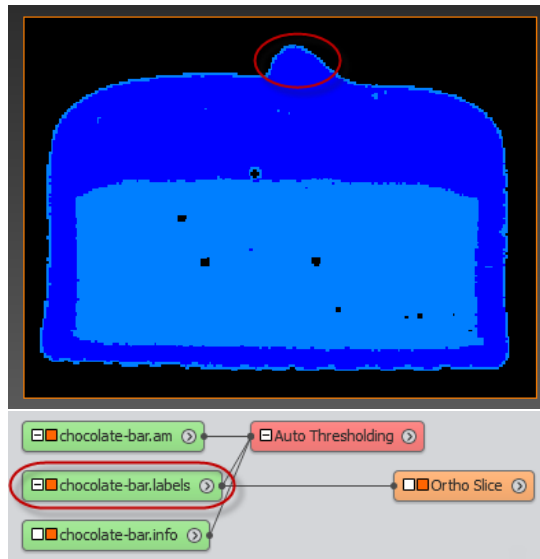
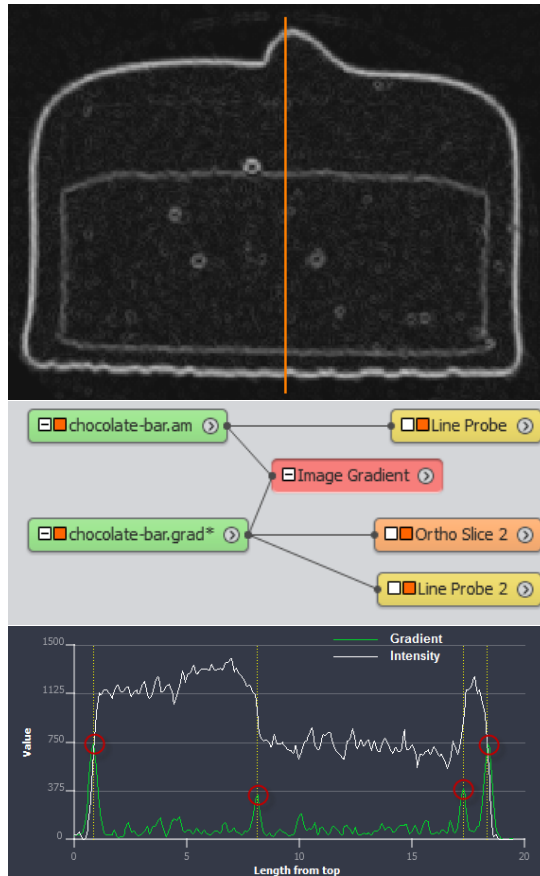
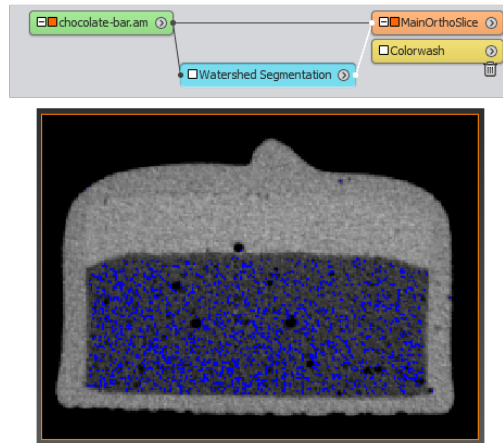

Figure 4.68: Automatically segmenting the image with *Auto Thresholding*.
Figure 4.70: The peaks of *Image Gradient* help to better locate the phase boundaries
Figure 4.75: The *Watershed Segmentation* wizard at step 5.
A mousse layer (light blue) seems to surround the chocolate topping (dark blue): the mousse between the exterior and the chocolate is actually an artifact due to partial volume effect (see Figure 4.68 and Figure 4.69). Adjusting the thresholds will not solve that issue. As illustrated in figure 4.70, the image gradient gives useful hints on actual boundaries. Instead of using direct intensity thresholding, a more robust method is shown in the next section that takes advantage of the image gradient.
- You can use 629-674 as range here. Again, the goal is to mark inner areas of the given material. (see Figure 4.75). If you select a lesser lower range, areas between the air and the chocolate will be selected, and it will result in the same artifact than the one introduced in Figure 4.68.